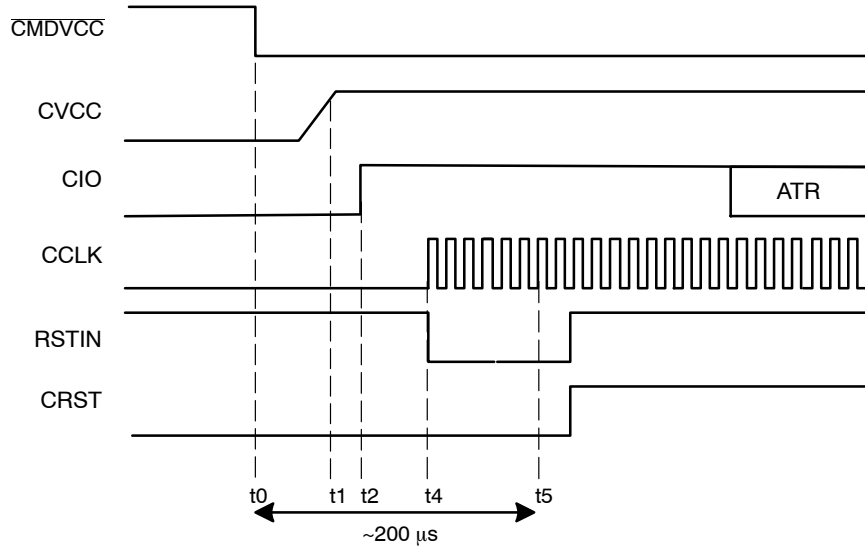

Figure 5. Activation Sequence – RSTIN Mode (RSTIN Starting High)
The clock can also be applied to the card using a **RSTIN mode** allowing controlling the clock starting by setting RSTIN Low (Figure 5). Before running the activation sequence, that is before setting Low  $\overline{CMDVCC}$  RSTIN is set High. The following sequence is applied:
- Between t2 (Figure 5) and t5 = 200 μs, RSTIN is reset to LOW and CCLK will start precisely at this moment allowing a precise count of clock cycles before toggling CRST Low to High for ATR (Answer To Reset) request.